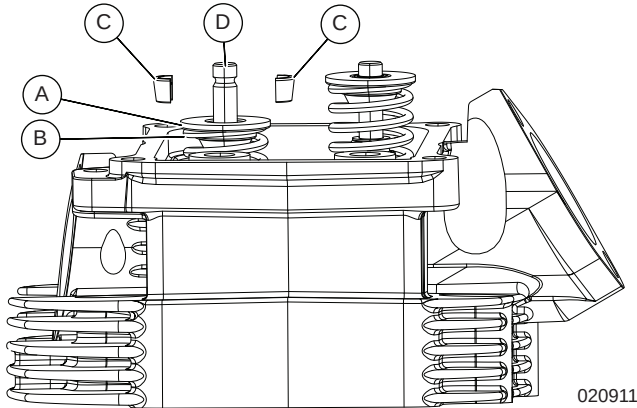

Figure 8-6. Install Valve Spring Keepers onto Valve
4. See Figure 8-6. Use a valve spring compressor to compress the valve spring (B) sufficiently enough to install the two valve spring keepers (C). Verify keepers are locked into the slot of the valve stem.